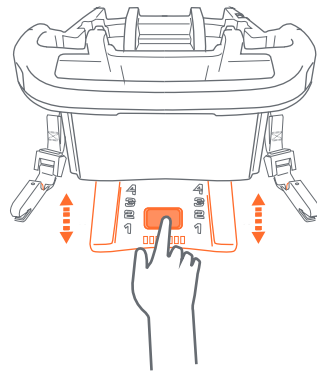

Fig. 58-2
- 1- Press blue elevation foot release button located on the front of the base to change base height to positions (Fig. 58-2).